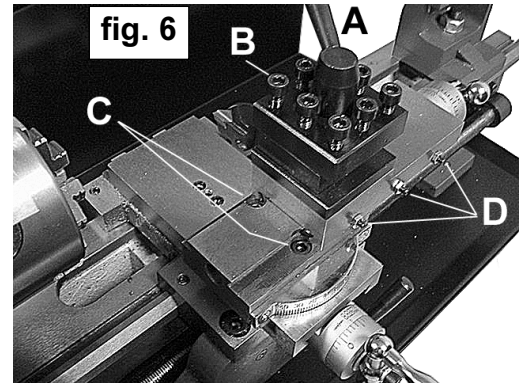

fig. 8
- 4.8.3. Undo the three gear retaining screws (fig. 8. 1, 2 & 3), using the chuck key to hold the chuck (and therefore the gear train) if necessary. Slacken the adjuster nut (fig. 8.4).